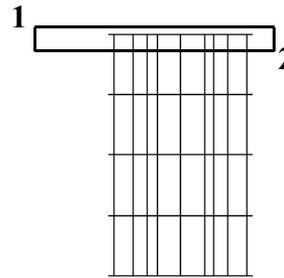

Figure 10-23 Beer Can Selection Points
3. Select surfaces: **Select from 1 to 2 as shown in Figure 10-23** and as noted below:
- Using the example to the right as a guide, click the left mouse outside and above the upper left corner of the surface area (1).